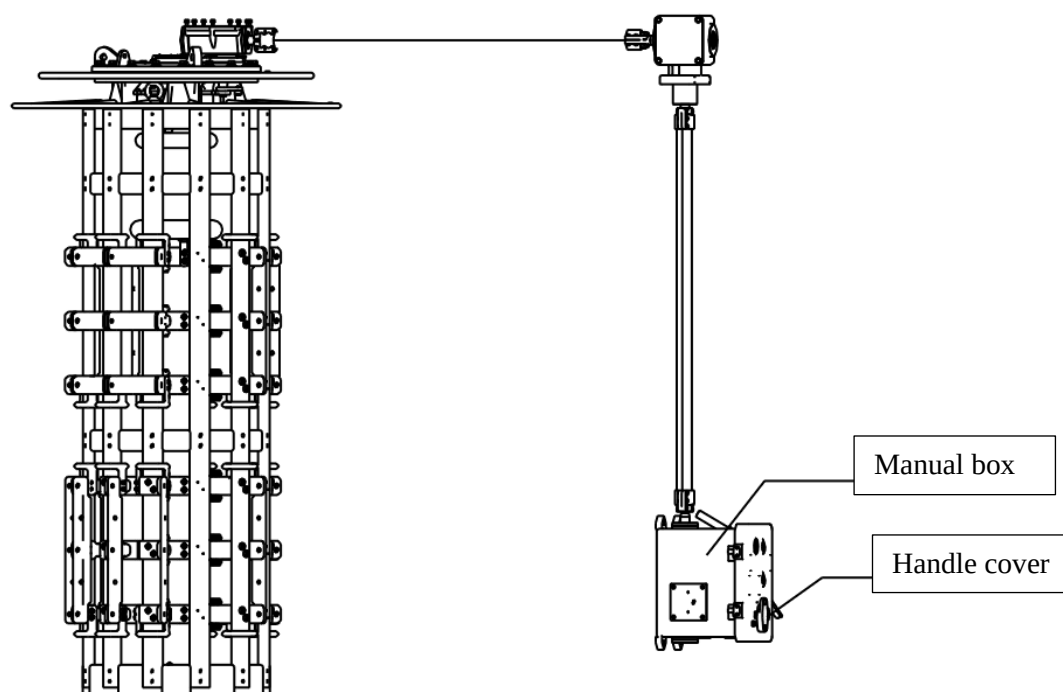

Figure 12 Schematic diagram of the position of the manual box and the position of the handle cover
9.2.1 Open the cover of the hand wheel on the manual box, take out the positioning piece, and insert the hand wheel (see Figures 12 and 13)